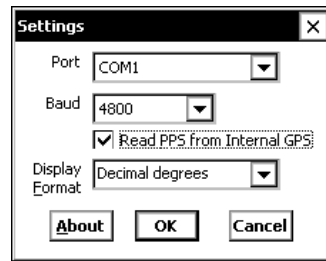

Figure D-1. GPS Status
- 4 Tap the drop-down arrow in the *Port* field and select **COM1** (Figure D-1).